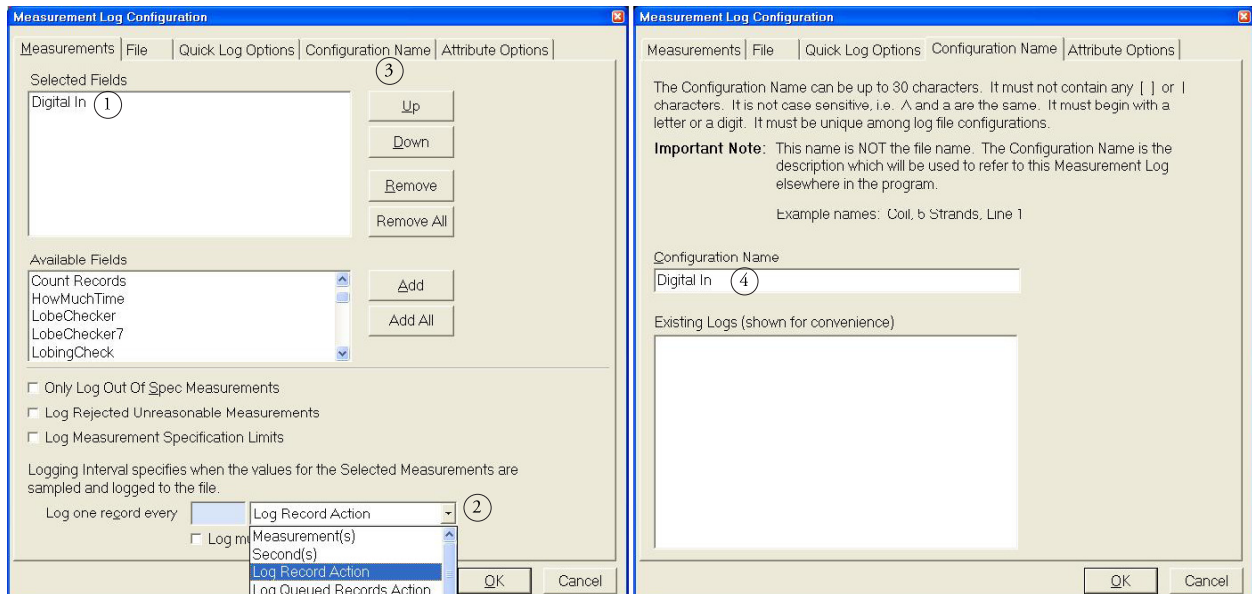

Figure 38. Measurement Log Configurations panel showing Measurements and Configuration Name tabs.
The Measurement Log Configuration panel opens with the Measurements tab selected (Figure 38).
- 1.1 From the list of available fields, select Digital In (*Part 1 in Figure 38*).
- 1.2 From the Log one record every ____ drop-down menu, select Log Record Action (*Part 2 in Figure 38*).
- 2 Select the Configuration Name tab (*Part 3 in Figure 38*).
- 2.1 In the box for configuration name, enter the Digital In (*Part 4 in Figure 38*).